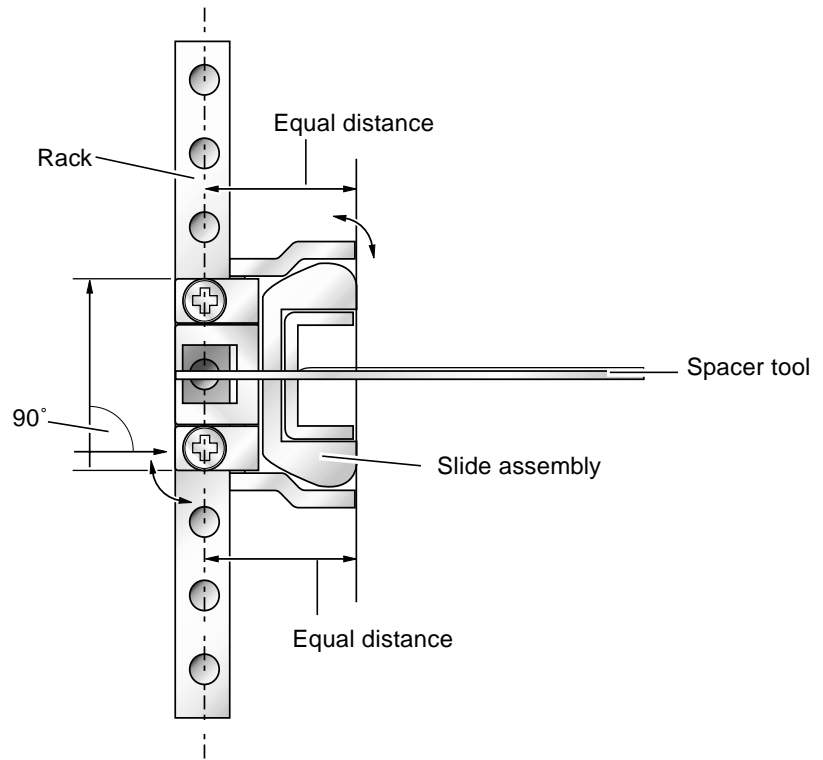

FIGURE 2-6 Slide Assembly Vertical Alignment
6. Ensure the slide assemblies are aligned vertically as shown in FIGURE 2-6.